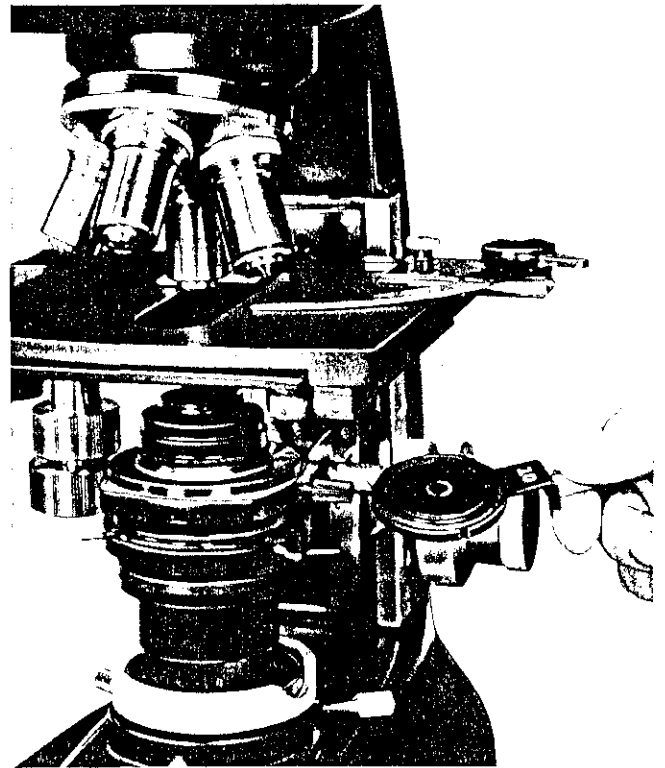

FIG. 11-3 - L.W.D. CONDENSER MOUNTED
2. Raise the substage and insert the condenser into the mounting ring from the underside. This is normally a tight fit, and the condenser should be firmly against the bottom surface of the ring mount. The condenser should rotate in the substage ring so that the two small centering screws are forward as shown in Fig. 11-3. This places the slot for the insertion of the annular discs to the right. Tighten the clamp screw to lock it in place.
5. Insert the appropriate annular disc with its index number upward into the slot on the side of the condenser, Fig. 11-3. It is correctly positioned when you feel it fall into its proper click-stop position. (The number engraved on the disc handle must correspond to the magnification factor on the objective in use.)
Use the same procedure for centering the phase annulus as was described when using the turret-type condenser and the telescope eyepiece. Use the centering keys to adjust the two centering screws protruding from the front of the LWD condenser, Fig. 11-3, until the bright ring overlaps the grey rings as illustrated in Fig. 11-5. This procedure will be necessary for each of the four annular stops when used with their corresponding objectives.